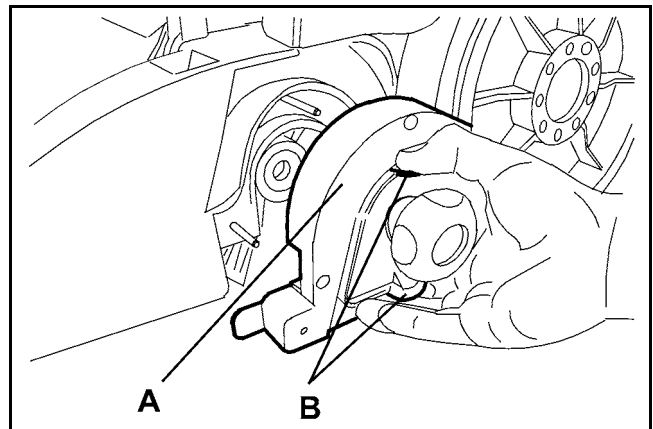

Figure 14
5. Remove the door (A, Fig. 14) by grasping it on the points (B).